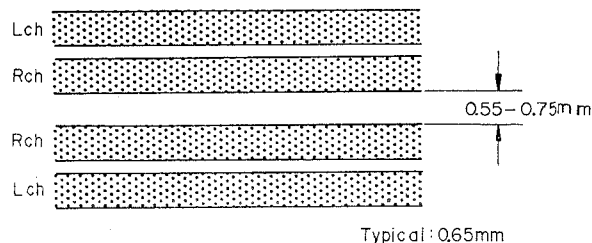

Fig. 5.14
(2) Record Head Height Adjustment and Azimuth Alignment
- (g) Immerse the recorded tape in a magnetized developing solution. In turn, check to insure that the recording head tracks across the center are separated with a distance of 0.55 to 0.75 mm. (typically 0.65 mm) as illustrated in Fig. 5.14.